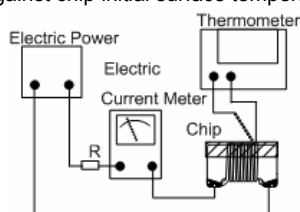

Fig.6.3.5-1
- Definition of Rated Current (I_r): I_r is direct electric current as chip surface temperature rose just 20°C against chip initial surface temperature (T_a) (see Fig. 6.3.5-2).